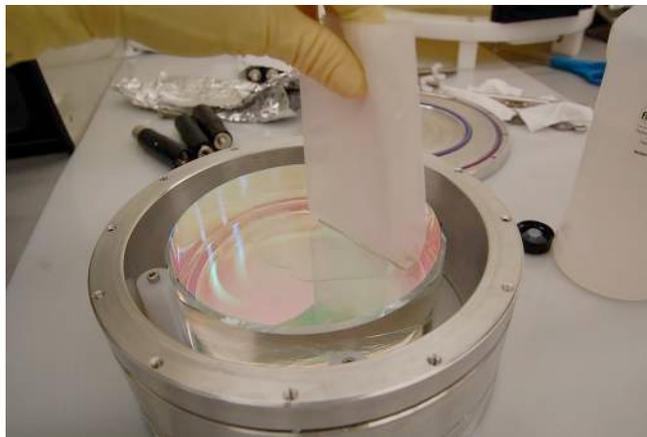

Figure 4: Spreading FC onto an input optic with a Berkshire lens tissue
5. Fold a lens tissue so that you have a rounded edge as in Fig. 4.